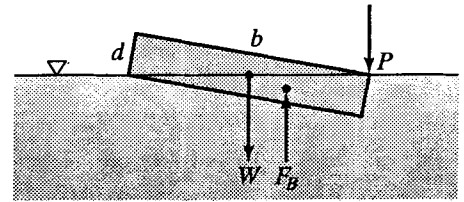

Figure P3.28
3.29 A rectangular block of uniform material and length $L = 800$ mm, width $b = 300$ mm, and depth $d = 50$ mm, is floating in a liquid. It assumes the position shown in Fig. P3.28 when a uniform vertical load of 20 N/m is applied at P . (a) Find the weight of the block. (b) If the load is suddenly removed, what is the righting moment before the block starts to move? (Hint: Refer also to Fig. 3.19.)